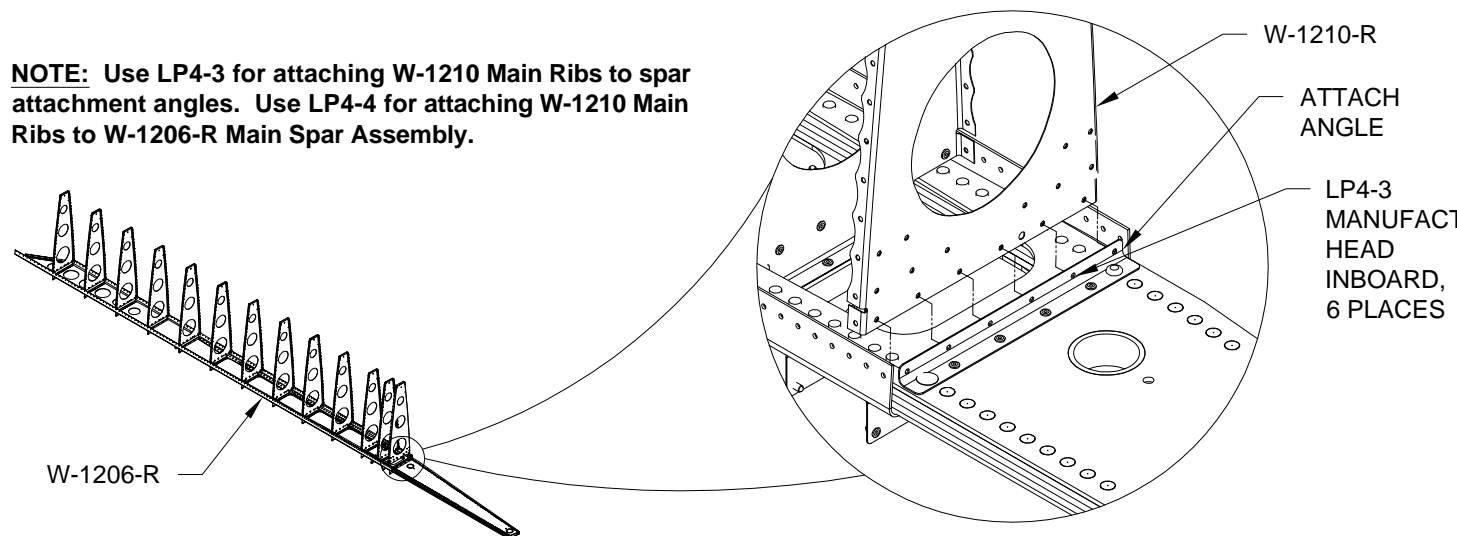

FIGURE 2: ATTACHING THE MAIN RIB AND DOUBLER
Step 6: Cleco then rivet the remaining five W-1210-L Main Ribs to the next inboard attach angles and to the W-1206-R Spar Assembly as shown in Figure 2.
Step 7: Cleco then rivet the forward trimmed W-1210-R Main Rib with the attached W-1210B-R Rib Doubler to the most inboard attach angle on the W-1206-R Spar Assembly as shown in Figure 2.